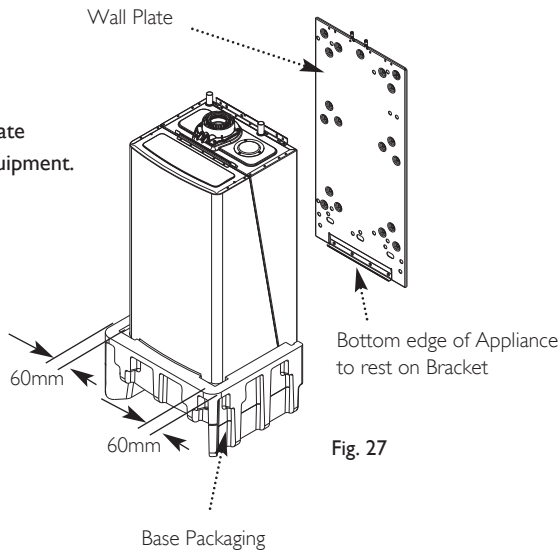

Fig. 27
1. Using a suitable lifting device, lift the appliance on its base packaging. Offer the appliance up to the wall plate and engage the bottom edge of the back of the appliance on to the wall plate (Figs. 27 & 28). **Ensure that there is adequate clearance for the lifting equipment (see Section 7.2).**